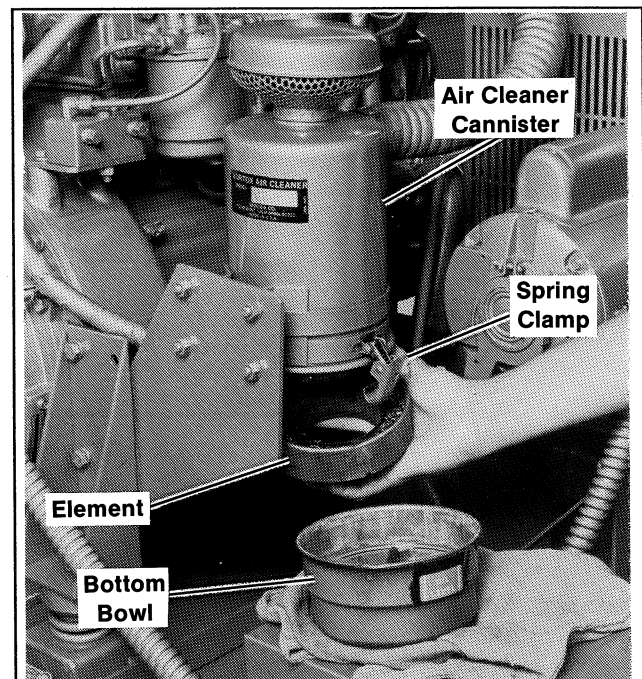

Figure 3-12. Air Cleaner Components- Oil Bath Type
1. Loosen two spring clamps securing bottom bowl to filter canister; lower and remove bowl. See Figure 3-12.